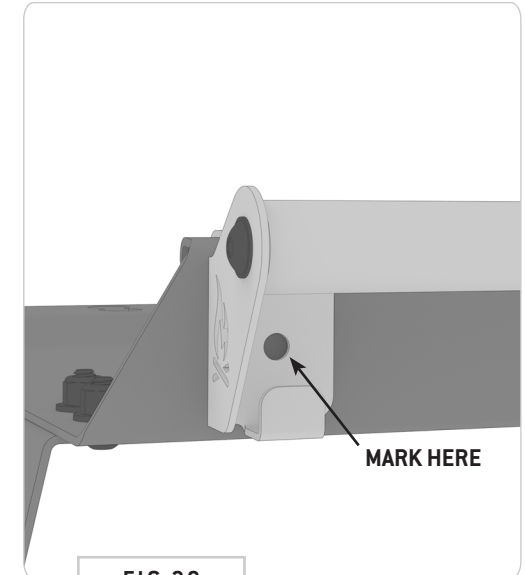

FIG 20
**6.2 Mark Headliner Shelf for Drilling:** Mark through the mounting holes of the **Curtain Rod** onto the **Headliner Shelf Flange** (FIG 20).